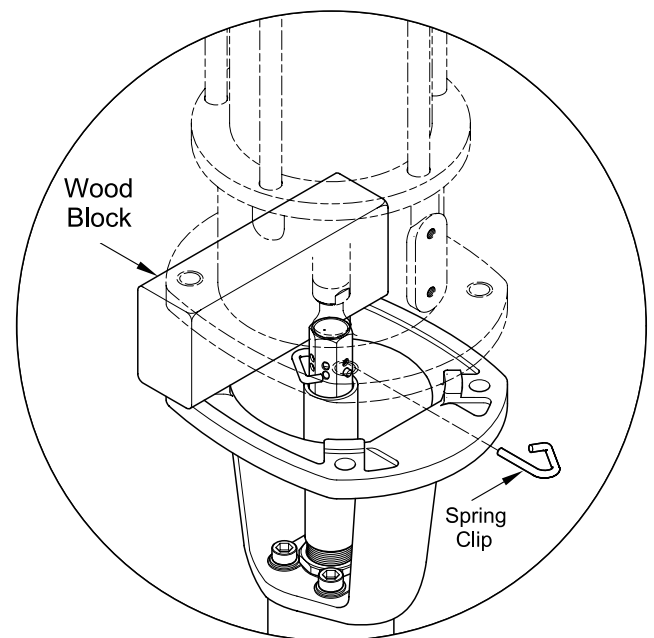

Figure 4 Separation of Air Motor from Pump Tube with use of Wooden Block
1. Clamp the pump assembly vertically in a vise at Bung Adapter (25).
2. Remove Screws (3), Lock Washers (4), and Nuts (5) that secure the Air Motor Assembly to the Pump Tube Assembly.
3. Lift the motor upward to expose upper Coupling (9) and at the same time place a wood block (2" x 4") onto the surface of Upper Mounting (15). See **Figure 4**.
5. Remove upper Spring Clip (10) that secures the air motor piston to the Coupling.